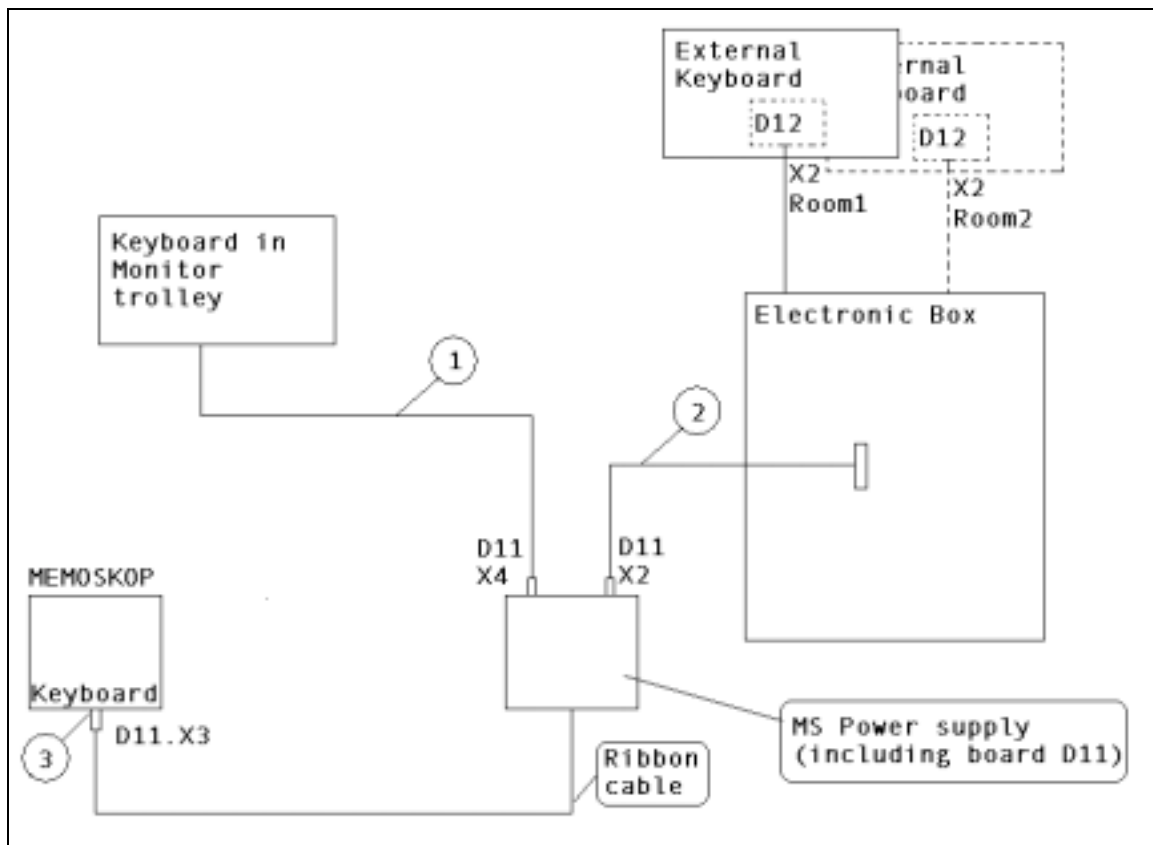

Fig. 3
- Plug D11.X2 (2/Fig. 3) of the additional TV cable is already attached and screwed to plug D11.X2 of the MS power supply.
- Attach keyboard plug to plug D11.X4 of the MS power supply (1/Fig. 3) and secure the screws.
- Route the ribbon cable D11.X3 from the MS power supply to MEMOSKOP and attach to "keyboard" plug of MEMOSKOP (3/Fig. 3).